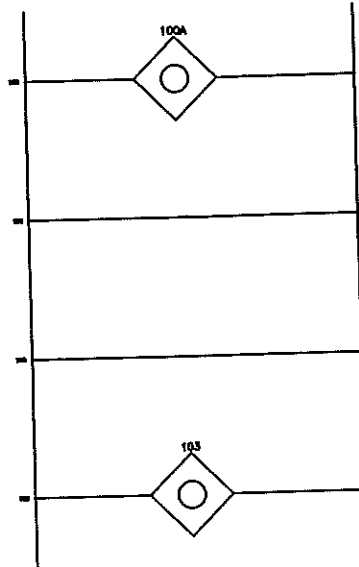
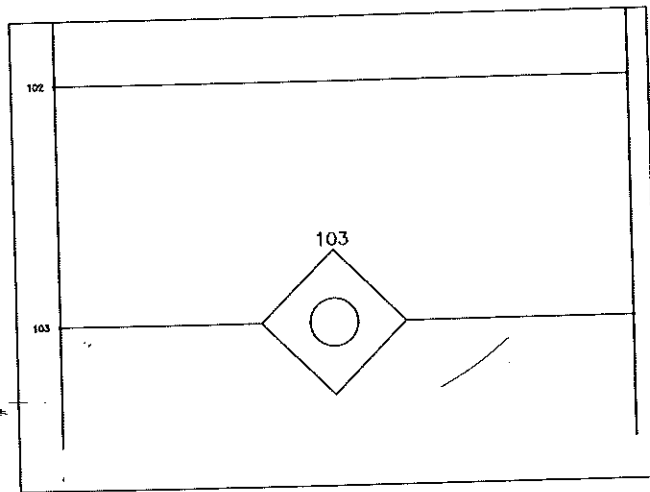

Figure 13-44 Symbol inserted into the ladder
Figure 13-45 The zoomed view of the symbol inserted into the ladder
3. Enter **13,3** at the Command prompt and press ENTER; the **Insert / Edit Component** dialog box is displayed. Enter **103** in the edit box of the **Component Tag** area and choose the **OK** button; the symbol is inserted in the rung 103 of the ladder, as shown in Figure 13-44. Figure 13-45 shows the zoomed view of the symbol inserted into the ladder.